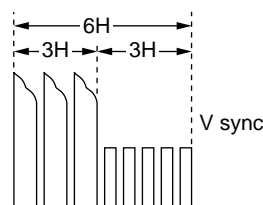

Figure 6.1.1
- 4) Select the address 30h, set the sync slope of oscilloscope to (-), and adjust the data with "REW" and "FF" so that the interval between the trigger point and the V sync signal is set to 6H, and fix the data with the "PLAY" button. (See Figure 6.1.1.)